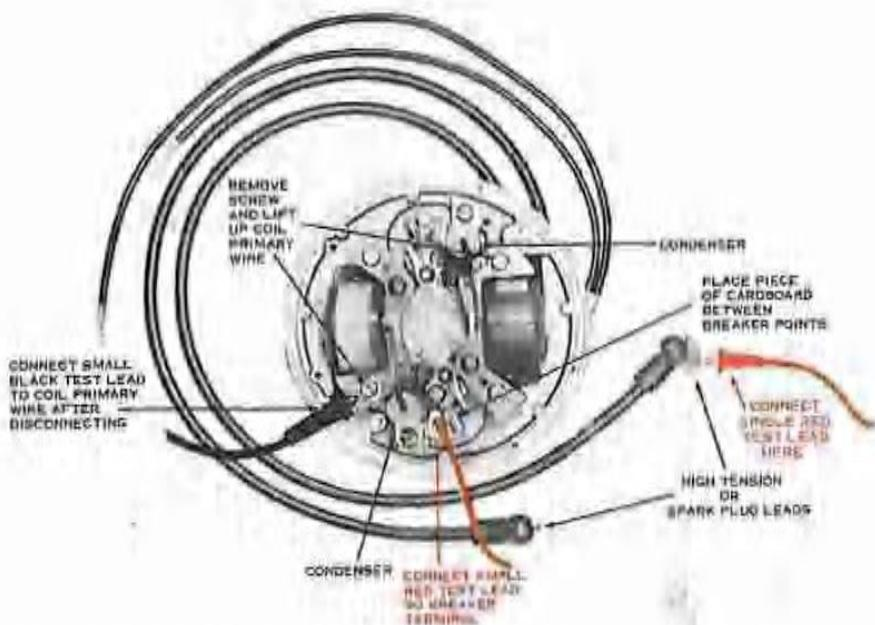

Figure 7
**Stator plate with 2 coils mounted, each coil to be checked separately as noted in Fig. 7.**